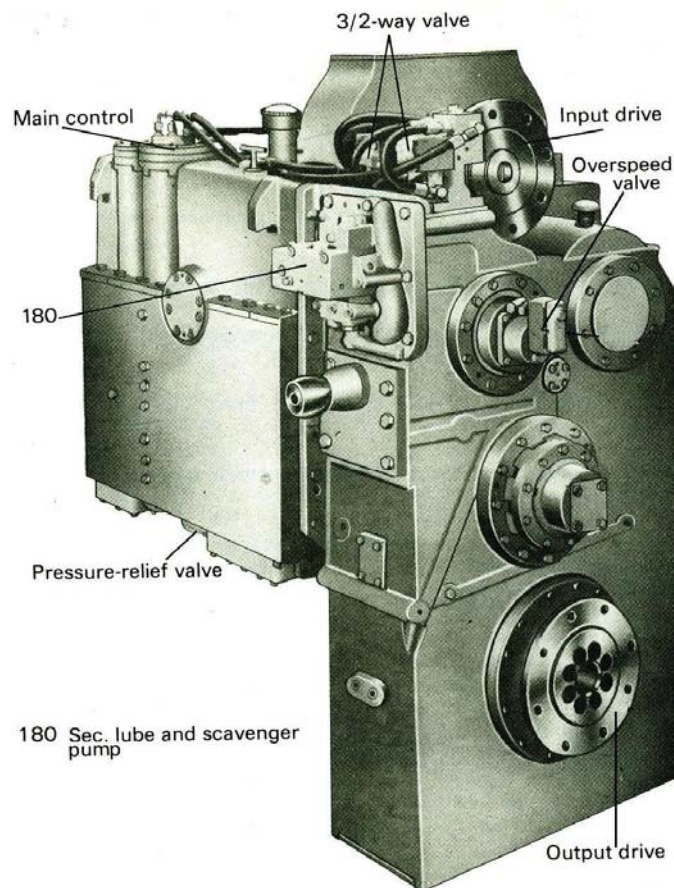

Fig. 1—Front view (L4r2U2)
5.1.6 SEC. LUBE AND SCAVENGR PUMP GROUP 180 (Ref. Fig.1)